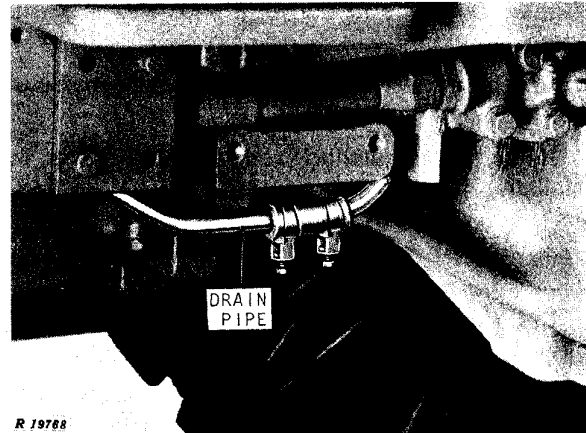
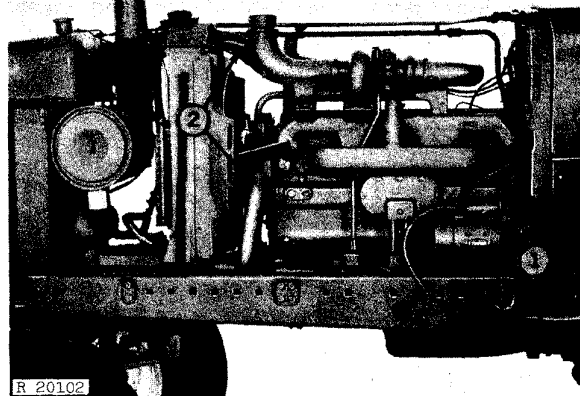

Fig. 13—Power Front-Wheel Drive Drain Pipe
Fig. 15—Left-Hand Side of Tractor
On tractors with Power Front-Wheel Drive, remove the drain pipe (Fig. 13).
1. Disconnect hydraulic pump inlet pipe (Fig. 15). On tractors with Power Front-Wheel Drive, also disconnect the drain pipe (Fig. 13).